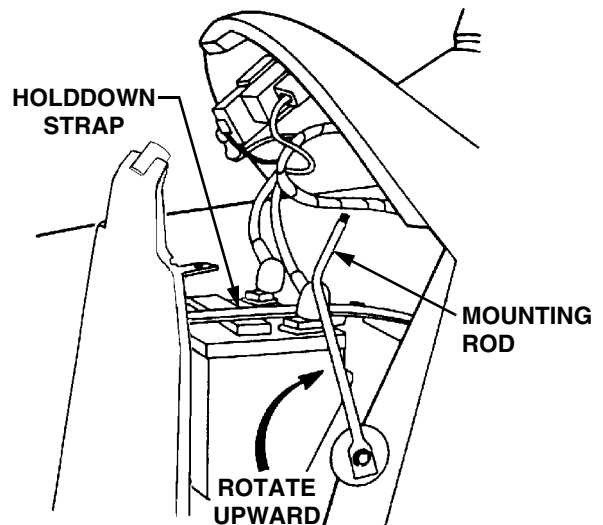

Figure 27
3. Rotate the mounting rod fully upward toward the dash panel to provide clearance for battery removal (See Figure 27).